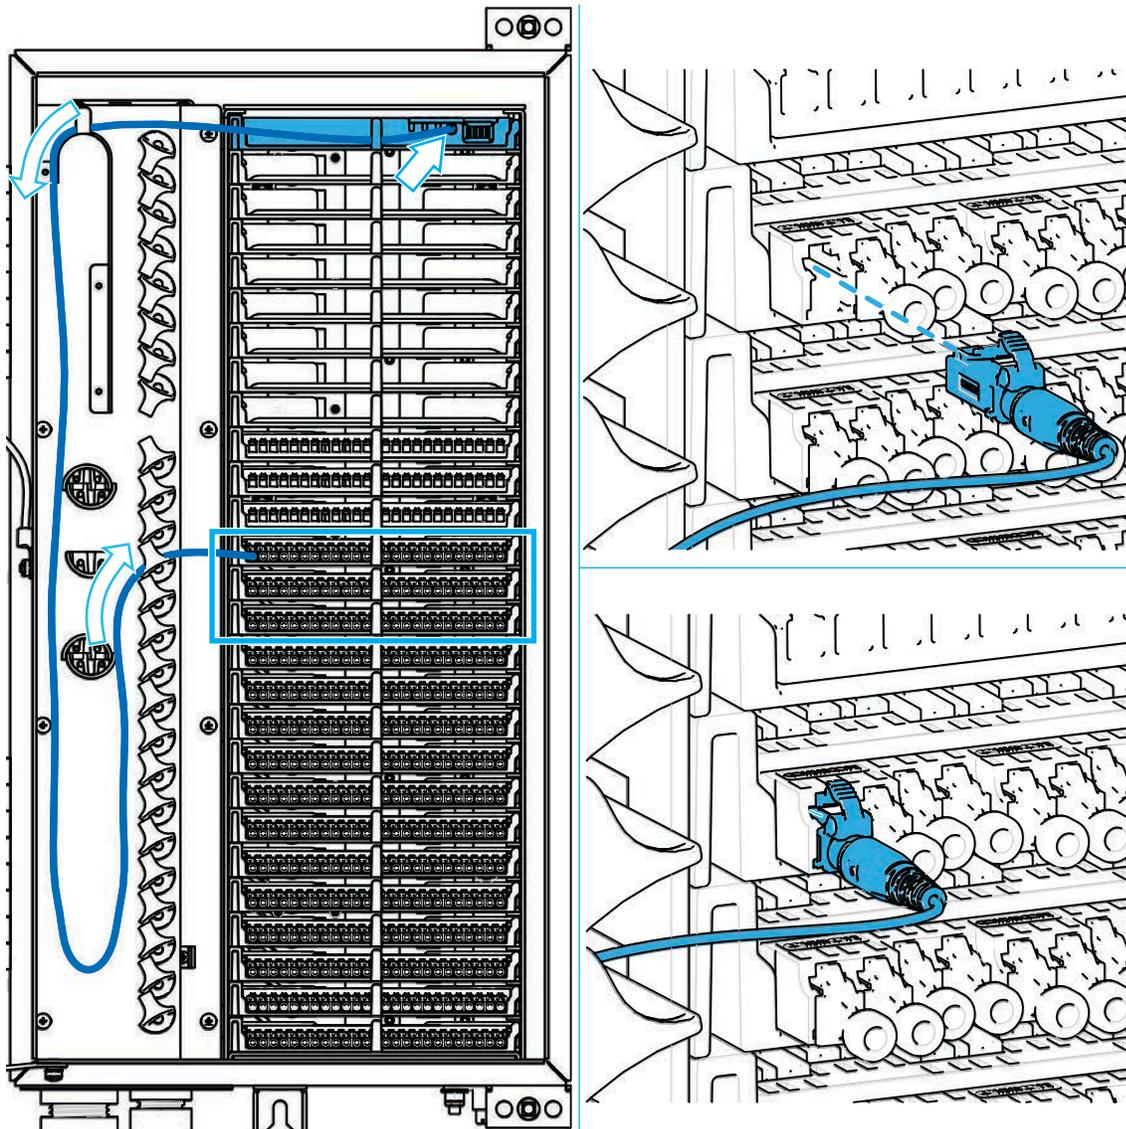

Figure 18. Connect feeder input
2. Select the designated feeder (INPUT) port to connect the input of the splitter module (the feeder ports are the first 3 adapter packs in the adapter panel, see Figure 18).
1. Select the designated feeder (INPUT) port. The feeder ports are the first 3 adapter packs in the adapter panel, see Figure 18.